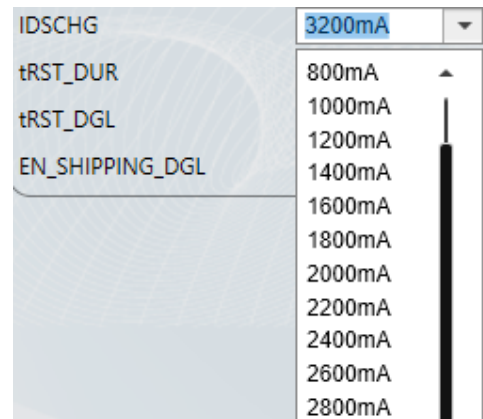

Figure 14: Battery Discharge Current Limit
10. Figure 14 shows the battery discharge current limit. Set the battery discharge current limit to 3200mA (the range is 400mA to 3200mA).